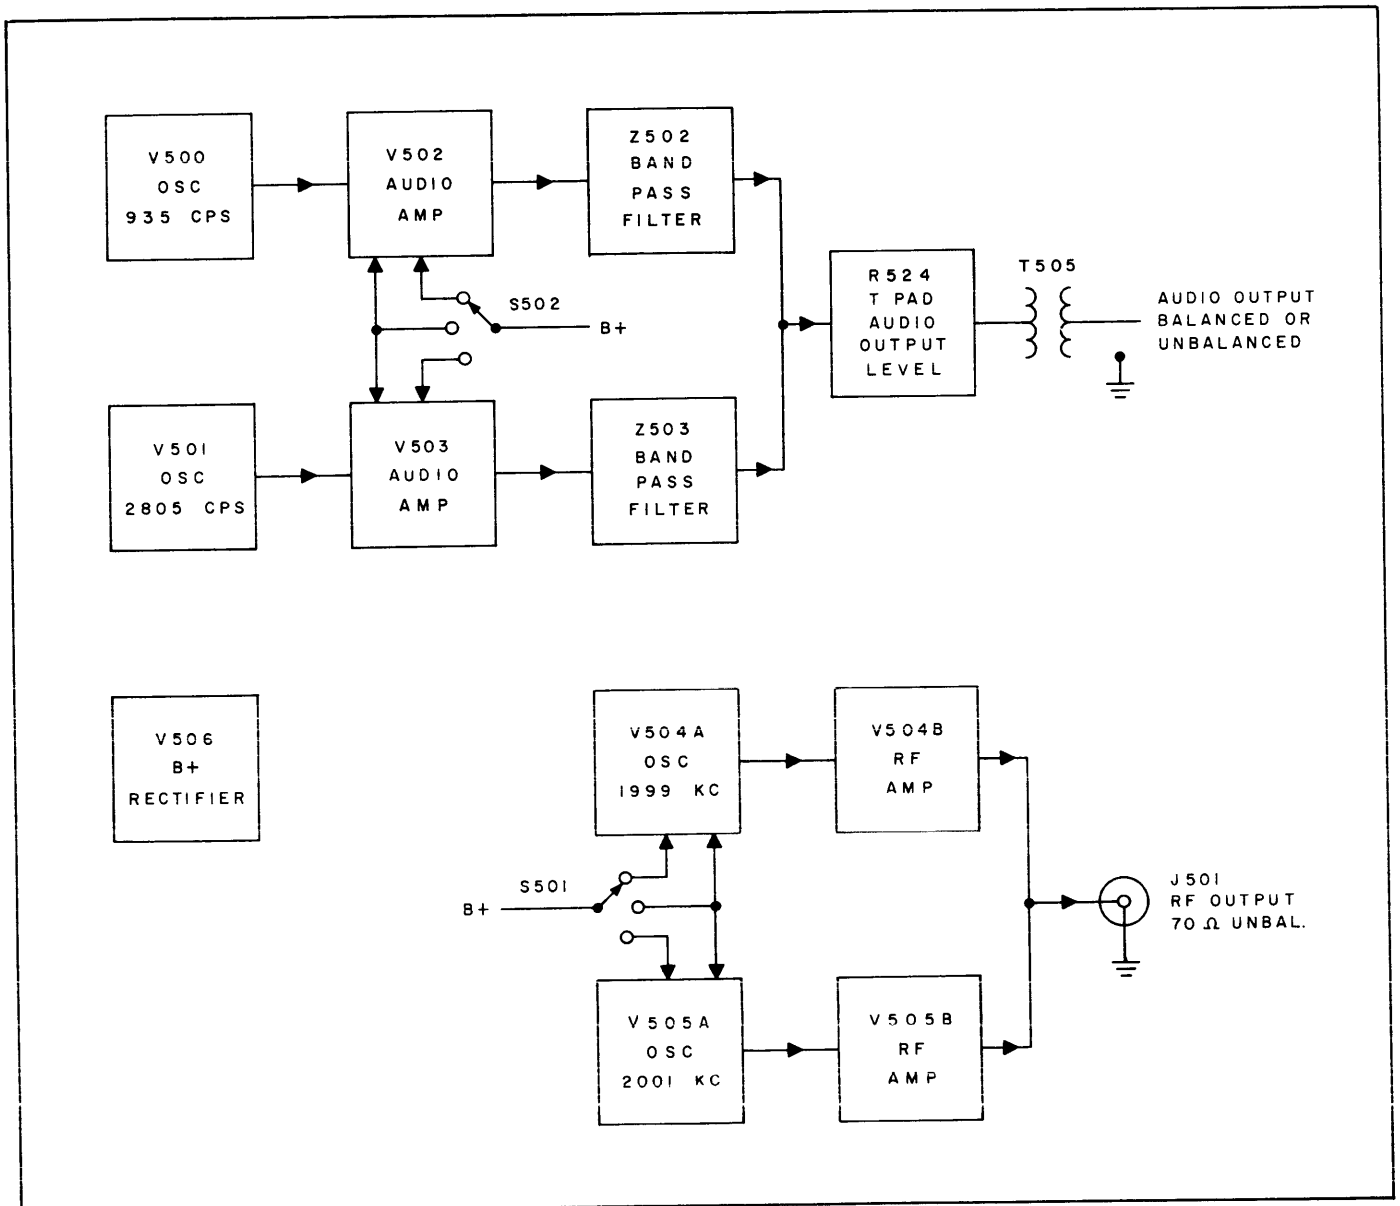

Figure 4-1. Block Diagram, Test Generator, Model TTG-2
a. GENERAL. Refer to figure 4-1. Test Generator TTG-2 contains two audio oscillators (935 cps and 2805 cps) and two r-f oscillators (1999 kc and 2001 kc).